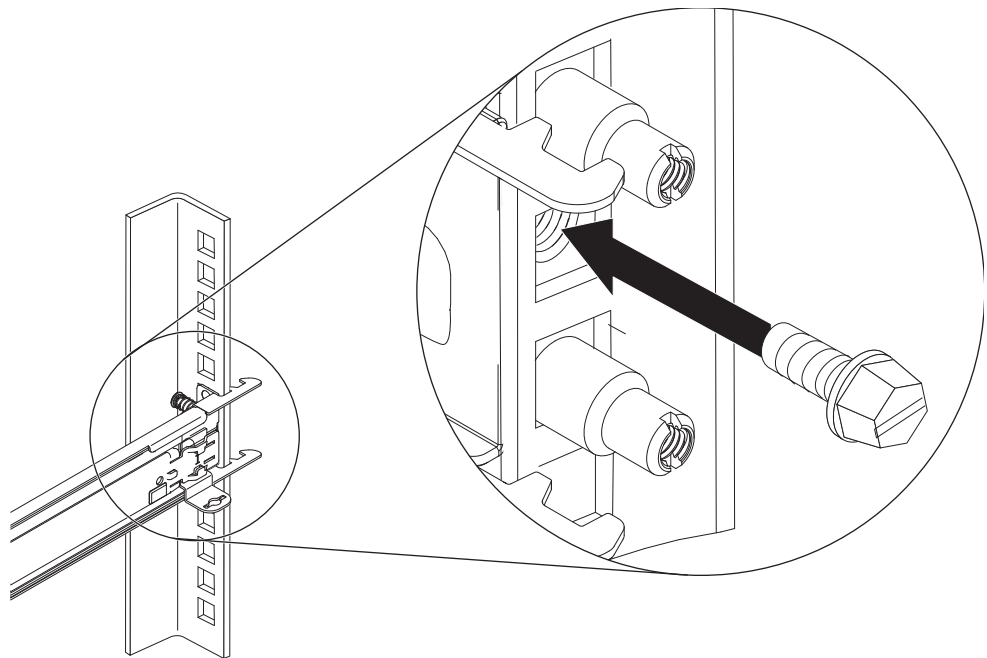

Figure 35. Securing the cable management arm and node
9. Optional: If you are in a vibration-prone area, or if you are shipping the rack with the system installed, secure the cable management arm and the server to the rack as shown in Figure 35.